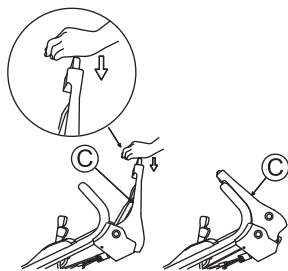

Fig. 18
3. Push the blade lever (C) forward while pressing its yellow button. Then, the blade starts rotating. (See Fig. 18)